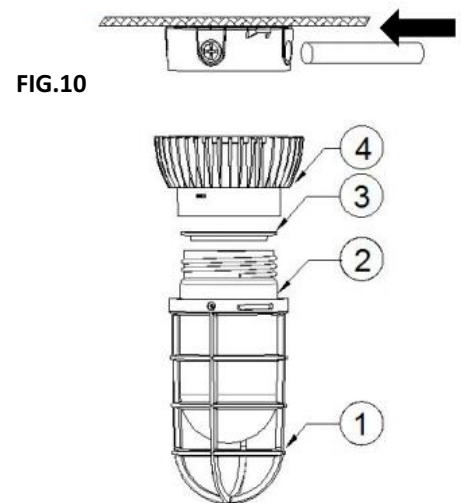

FIG.10
3. Connect the wires and screw the heat sink, glass and guard back in place. **See FIG. 10**